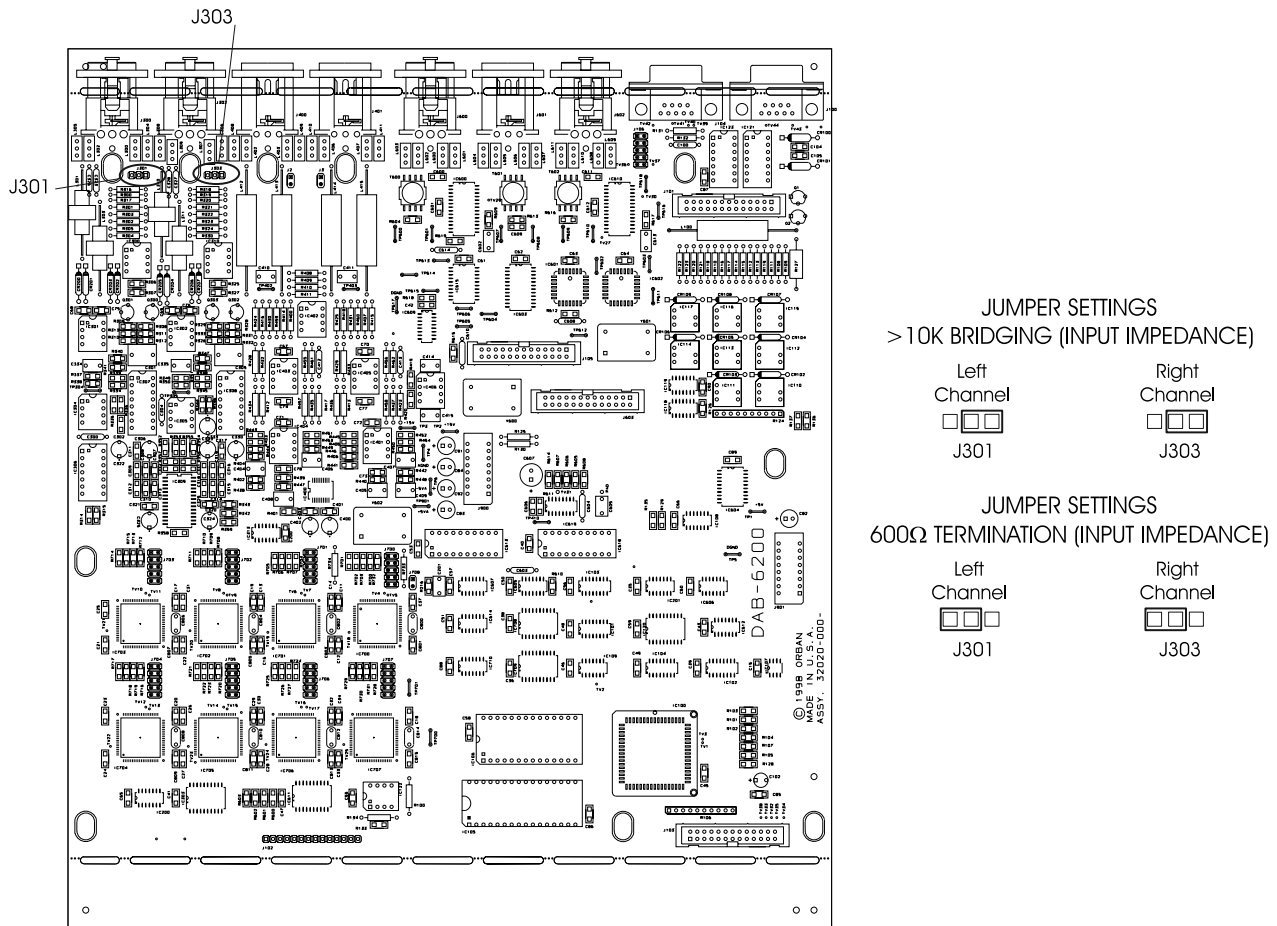

Figure 2-1: Jumper Settings
- C) Move jumpers J301 and J303 according to Figure 2-1.